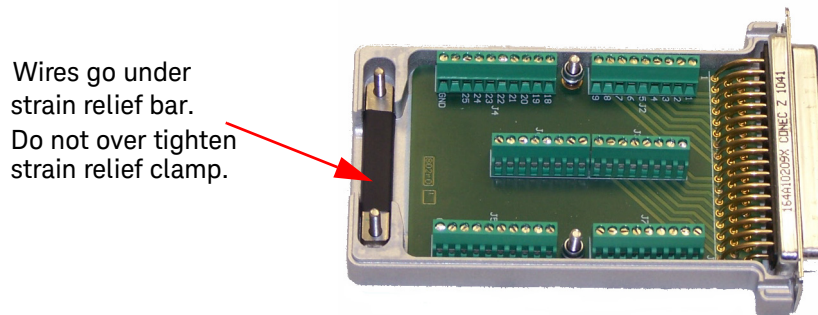

Figure 18 Using the Strain Relief Clamp
- 3 To use the strain relief, loosen the two strain relief screws and lift up on the strain relief bar. Refer to Figure 18.